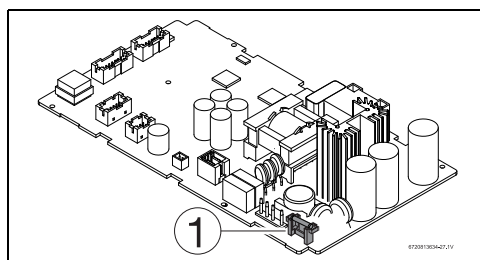

Fig. 23 Fuse position
- Check the fuse on the printed circuit board, for electrical continuity, see fig. 23, [1].